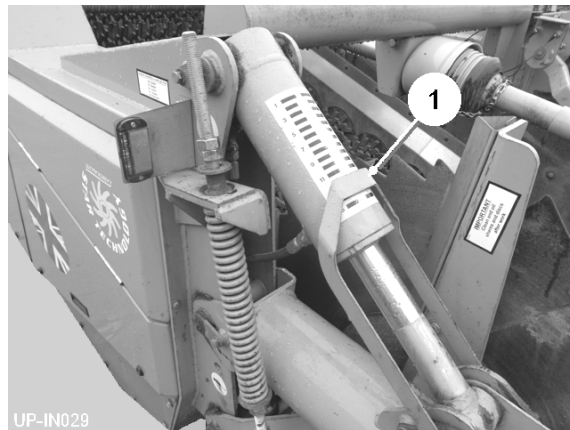

Fig 7a
2. Note the reading on the RH depth ram indicator (item 1, fig 7a).
4. Turn the depth control dial until the depth ram indicator (item 1, fig 7a) aligns with the noted reading.